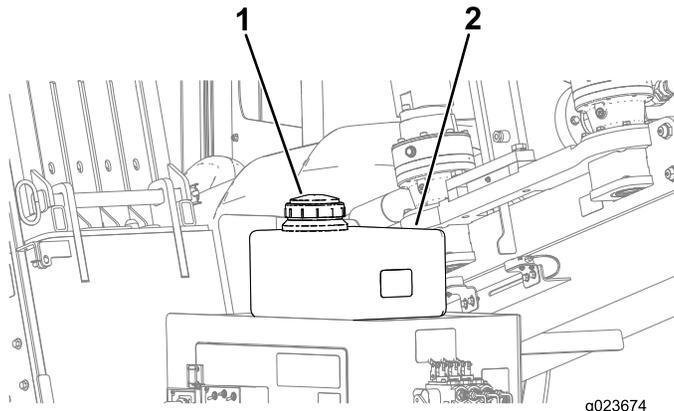

Figure 126
- C. Remove the cap from the antifreeze tank for the drilling-fluid pump (Figure 126).
D. Ensure that the tank is full of antifreeze (Figure 126).
D. Add antifreeze to the tank as needed (Figure 126).
5. Install the cap onto the antifreeze tank (Figure 126).